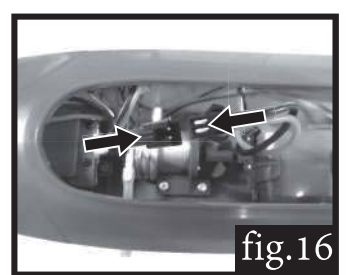

fig.16
16. Connect the motor to battery wire, fig. 16.